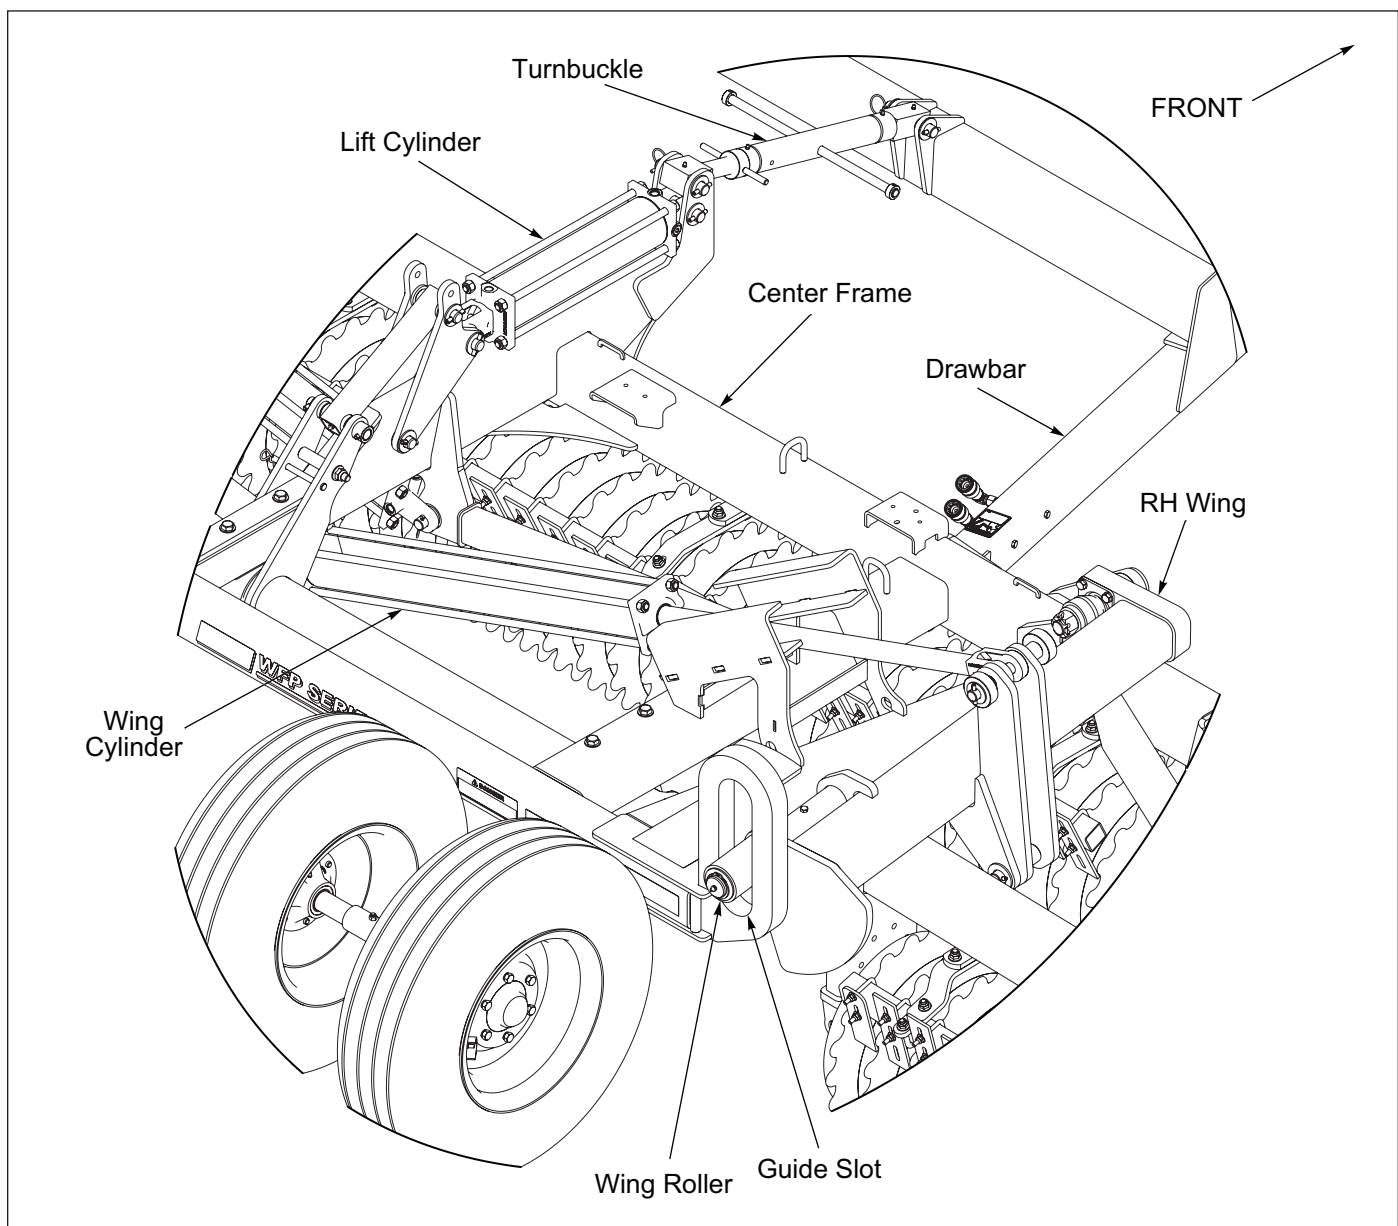

Figure 3-5: Wing Guide Slot
4. With machine unfolded and lowered on a level surface, adjust the Turnbuckle so that each Wing Roller is at the lower 1/3 of its respective Guide Slot. **See Figure 3-5.**